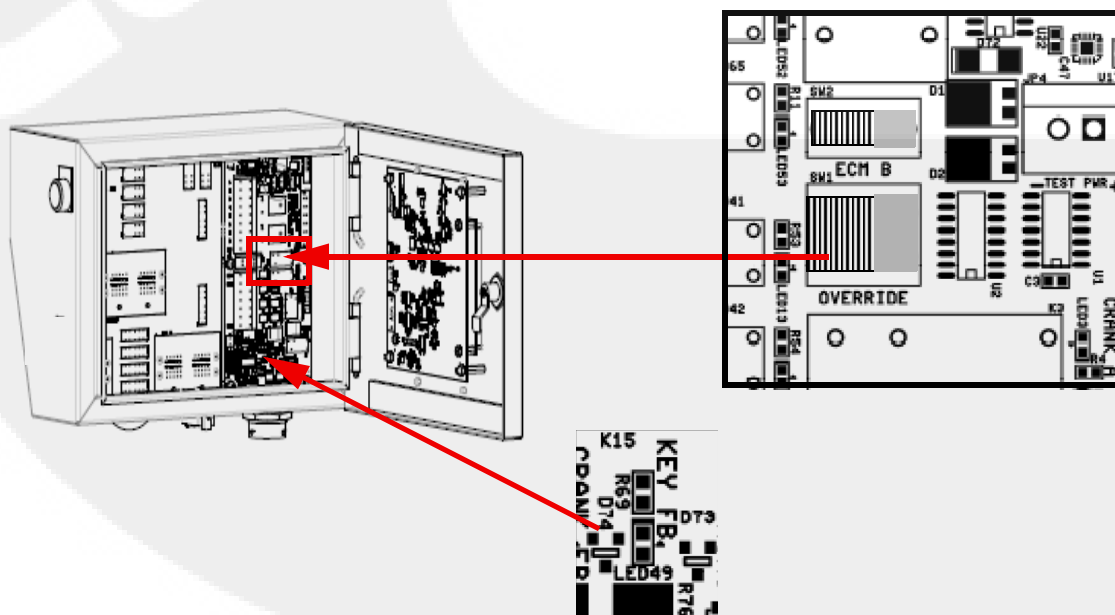

Figure 4-2 FPDP override switch
3. As shown in Figure 4-2, open the FPDP panel door and slide the key switch override to the “RIGHT” position. Verify that LED 49 - KEY FB (key feedback) switch is lit.